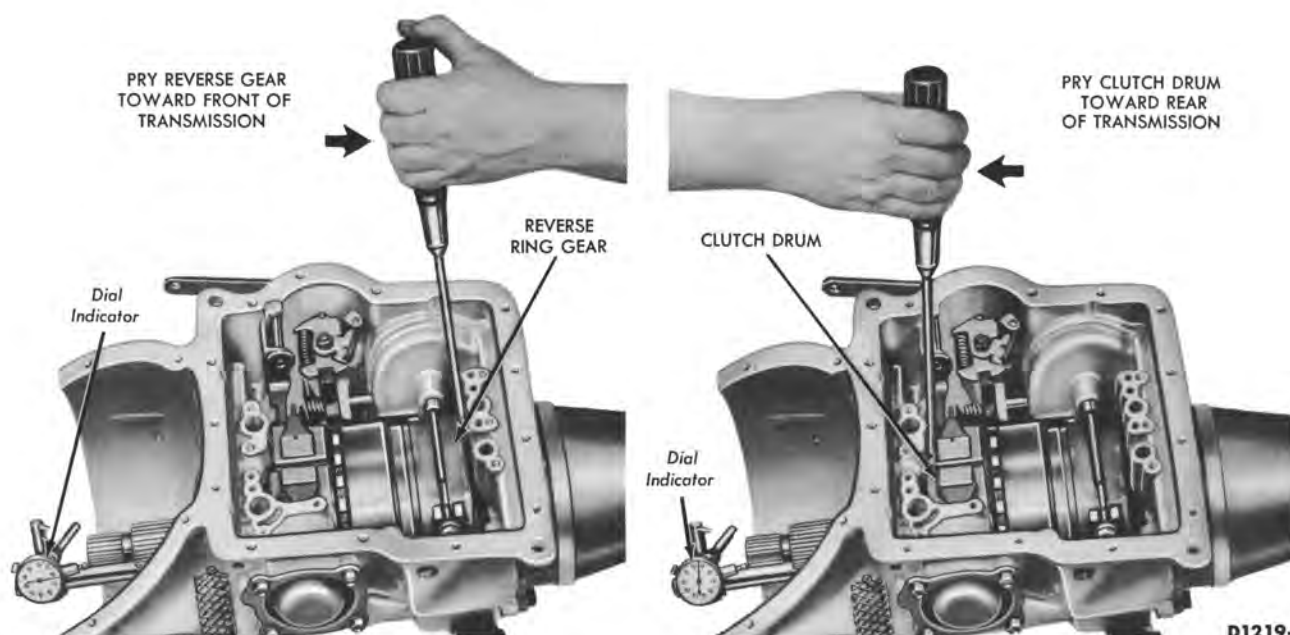

FIG. 2—Transmission End Play Check
3. Pry the reverse ring gear (Fig. 2) forward with a large screwdriver. Set the dial indicator at zero while maintaining a slight pressure on the screwdriver.
4. Now pry the clutch drum to the rear (Fig. 2). Record the indicator reading for use during transmission assembly. End play should be between 0.020 and 0.039 inch.
If the extension housing seal or bushing is to be replaced, use the tools shown in Fig. 2 or 3, Part 6-4.
1. Mount a dial indicator on the transmission case so that the contact rests on the end of the primary sun gear (turbine) shaft as shown in Fig. 2.